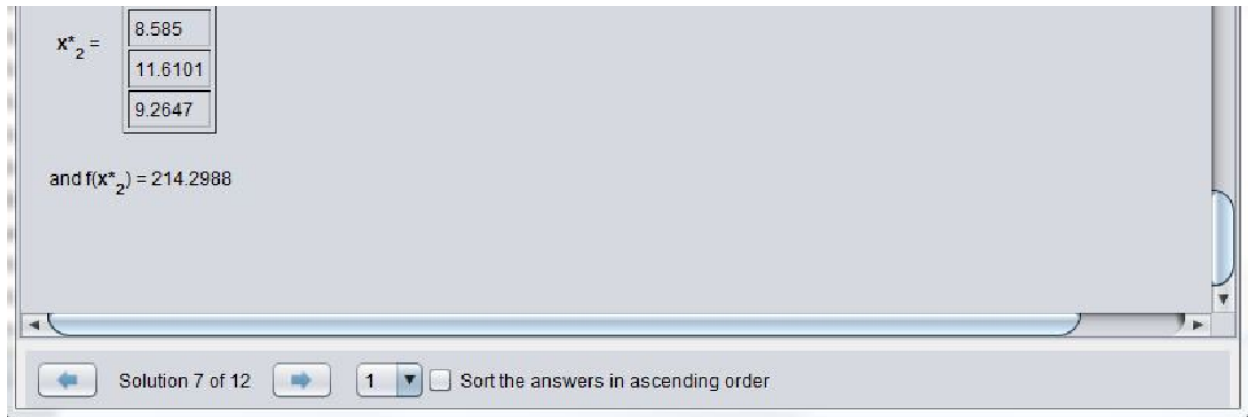

Fig. 8: The Pagination of the solutions set. The optimal solution is displayed first.
Step 8: When the process of calculating solutions is completed, the application will display the optimal solution first. Go through the solutions by scrolling down. At the bottom of the application window is a navigation panel for pagination of the solutions. You can use the arrow keys for previous and forward to go through all the solutions calculated. See fig. 8 below: